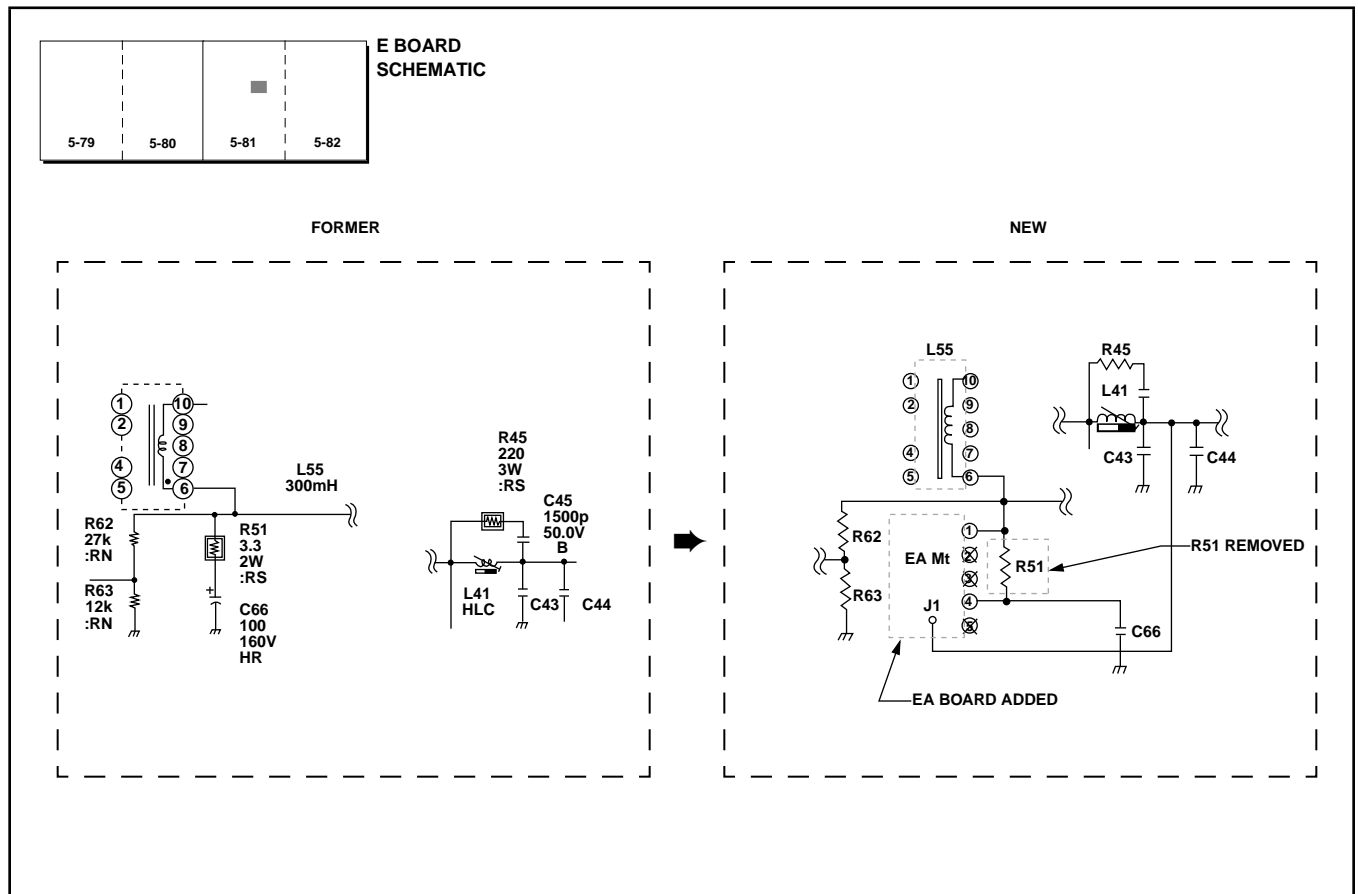

Figure 7
- E board schematic has changed as shown in Figure 7, due to removal of R51 and addition of EA board.